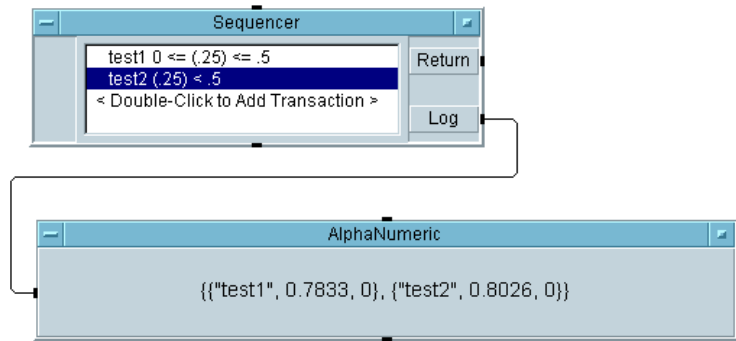

Figure 205 A Simple **Sequencer** Example
- Run the program and note the two records of data from the two tests. Save the program as `seq1.vee`. The program should look like Figure 205.